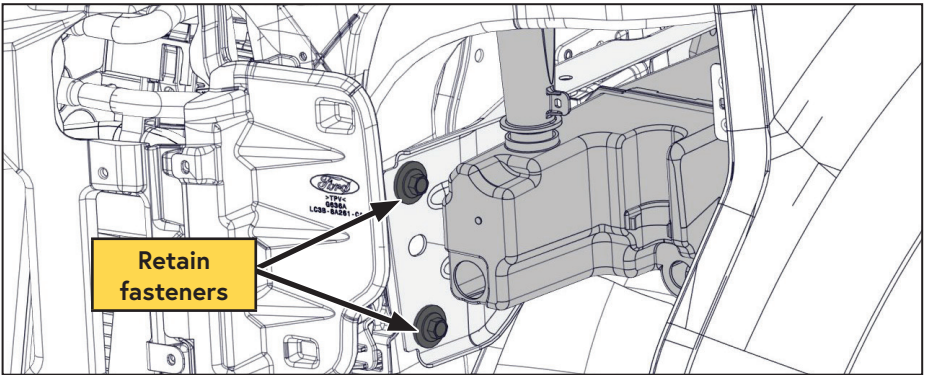

Figure 5 — Retain fasteners
- ☐ Disconnect and remove the washer fluid reservoir and battery tray support bracket; retain the fasteners (Figure 5).